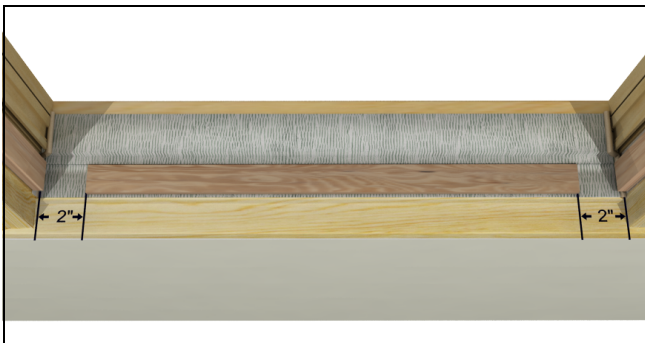

Figure 4
3. Depending upon placement of the insert unit; install filler strips on both jambs and head jamb of the existing frame. See figure 4.
4. Apply blocking to the sill leaving a 2" (51) gap at each end. See figure 4.